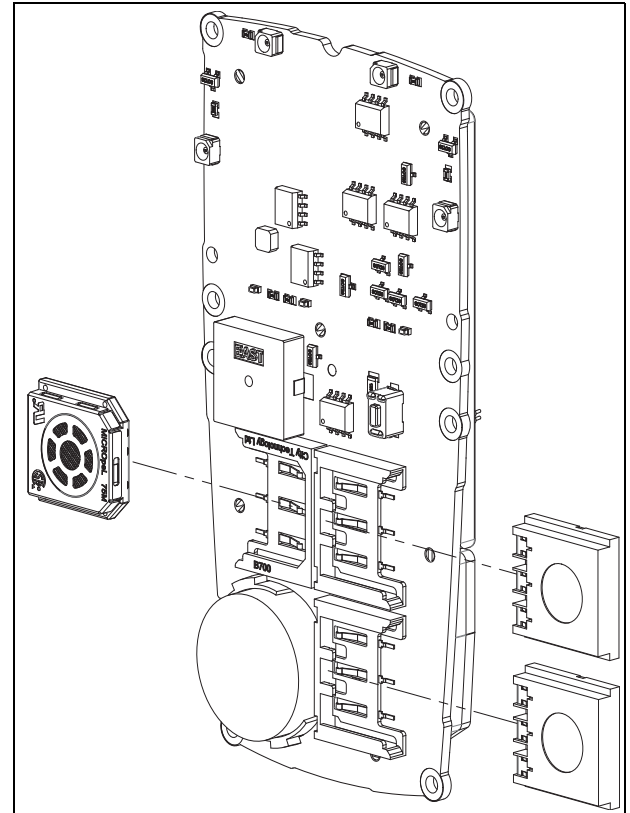

Figure 13. Sensor Positioning
- Figure 13, and
3. Insert the new sensor(s). For sensor positioning, refer to Figure 13.